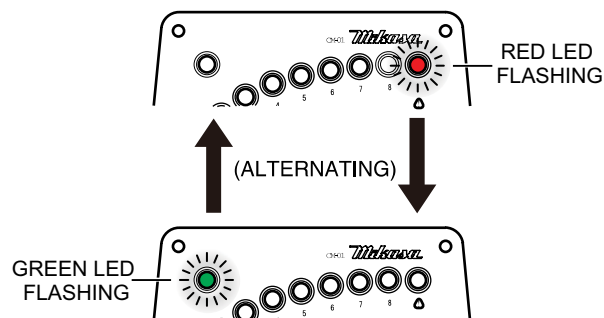

Figure 26. Sensor Wire Disconnection
3. If red and green LEDs are flashing alternately as shown in Figure 26 then please check the sensor wire because there is a possibility that it is disconnected.